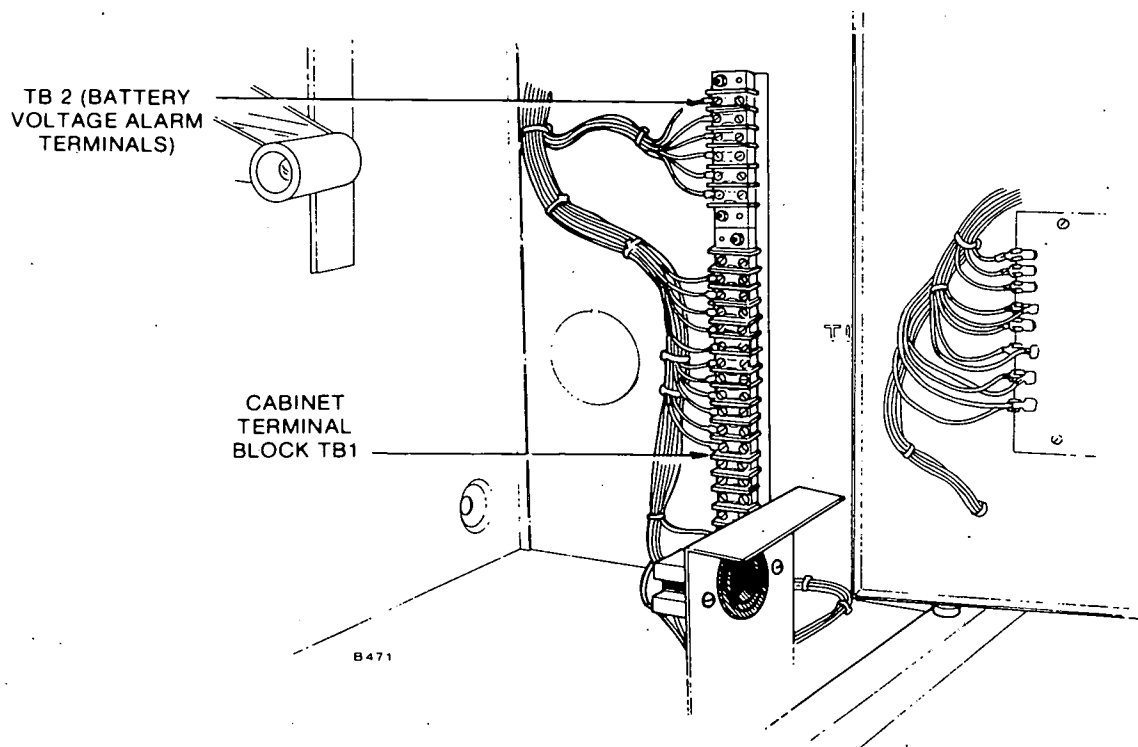

FIGURE 5. CABINET TERMINAL BLOCKS TB1 and TB2 (TYPICAL)
- a. Remove terminal jumper located between terminals 4 and 5 of terminal strip TB1 (Figure 5).
6. Transfer Inhibit Circuit: To inhibit transfer of the automatic transfer switch by another automatic transfer switch (for paralleling systems, priority selection systems, etc.), remove the jumper between TB1-6 and TB1-7. Connect the wire leads from the external equipment to these two terminals. See Figure 5.
7. Diesel Preheat Time Delay (if used): If this delay is used for operation of glow plugs on three-wire start generator sets, connect a wire from terminal TB1-H in the automatic transfer switch (three-wire starting only) to terminal "H" on the generator set. Use number 16 wire for distances up to 100 feet or 31 metres (maximum of 0.5 ohm per line). See Figure 5.
8. Onan Annunciator Connector for Overcrank (if used): Connect a wire from terminal TB1-53 in the automatic transfer switch (three-wire starting only) to terminal 53 on the Onan annunciator panel (Figure 5). Use number 16 wire for distances up to 800 feet or 244 metres (maximum of 4. ohms per line).